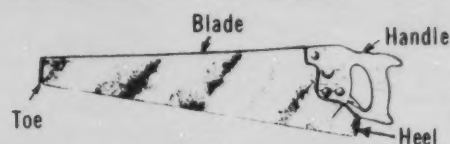

Figure 1-102. Typical Handsaw
b) Shown in Figures 1-102 and 1-103 are a typical handsaw (which could be either a crosscut or a rip-saw) and a compass saw respectively. A keyhole saw is similar to the compass saw but is much smaller.